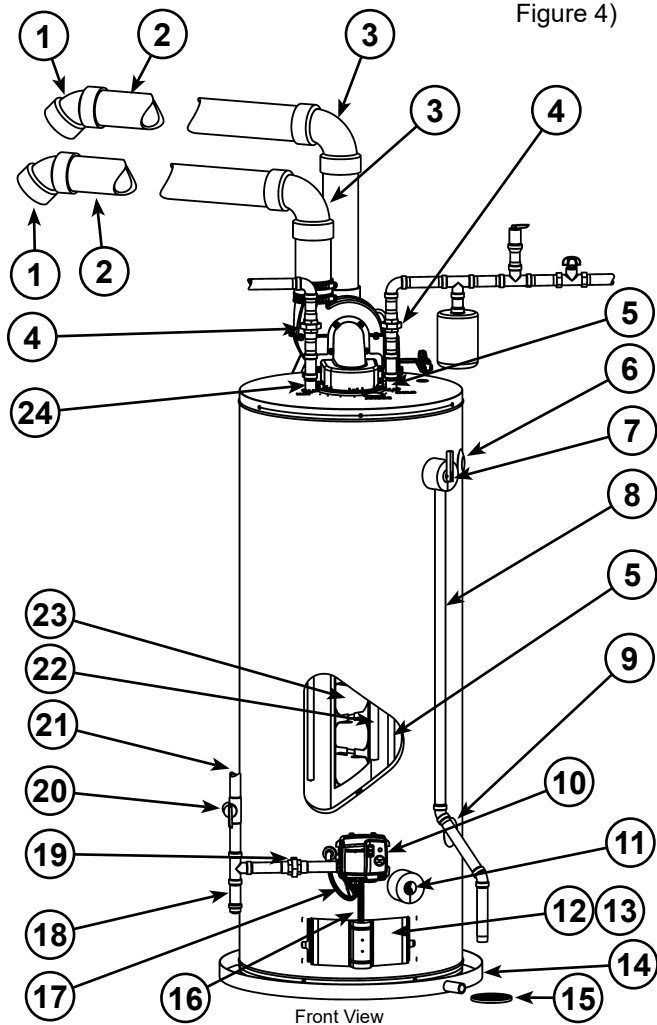
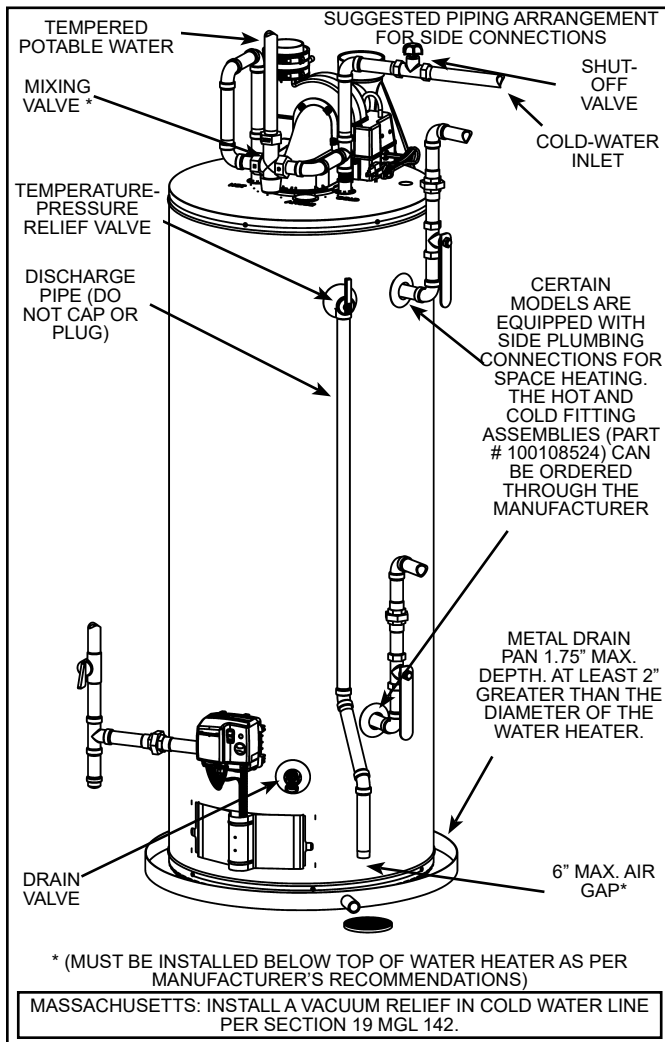
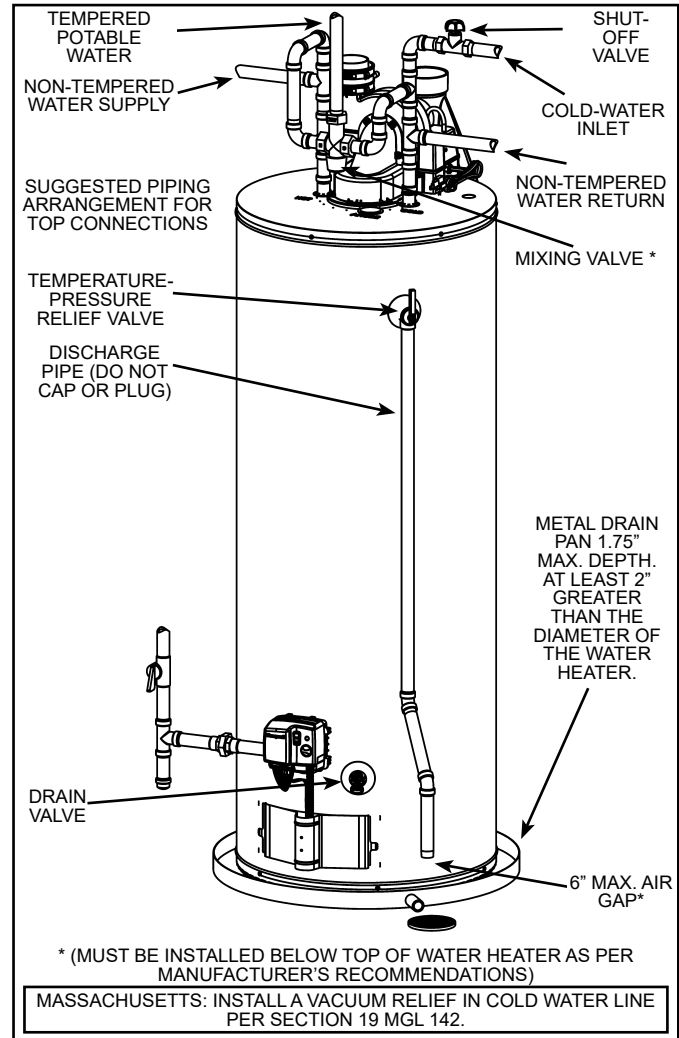

Figure 1.
Figure 7.
Figure 8.
Natural gas and Propane main burner with igniter assembly for 40k and 45k BTU/hr models (item 13 in Figure 1).
Natural gas and Propane (LP) main burner with igniter assembly for 58k, 62k, 72k and 76k BTU/hr models (item 13 in Figure 1) †.
Models equipped with Combo Heating capabilities are shipped with the two side plumbing taps **OPEN** (item 6 and item 9 in Figure 1). See also Figure 7. If the heater is to be operated without using the side taps for combo heating, these openings **must be plugged** with the two pipe plugs supplied with the heaters.
In addition to using lowest possible temperature setting that satisfies demand of application, a mixing valve should be installed at water heater (see Figure 7 and Figure 8) or at hot-water taps to further reduce system water temperature.
This feature is a part of the gas control valve/thermostat (see Figure 1, item 9) and limits the maximum water temperature. In the event of the water overheating, this safety feature shuts off the fuel supply to the burner.